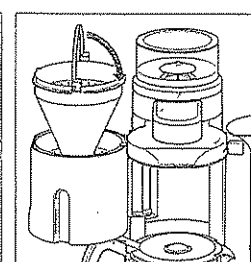

Figure 17
- After cleaning the filter insert, fit the swivel filter. Reposition the bracket (Figure 17). The filter insert is now relocked. Please check that it is positioned and locked correctly.